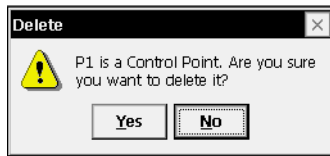

Figure 2-27. Delete Message
- ***Overwrite***: the imported object will overwrite the existing one. If the object represents a control point, a confirmation displays that the point is deleting (Figure 2-27 on page 2-23).